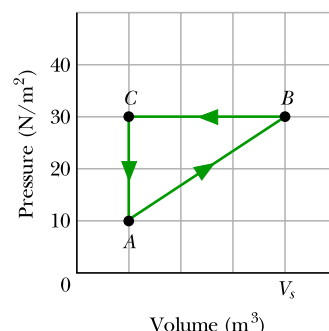

Figure 18.16 Problem 45.
**45 E CALC SSM** A gas within a closed chamber undergoes the cycle shown in the  $p$ - $V$  diagram of Fig. 18.16. The horizontal scale is set by  $V_s = 4.0$  m³. Calculate the net energy added to the system as heat during one complete cycle.